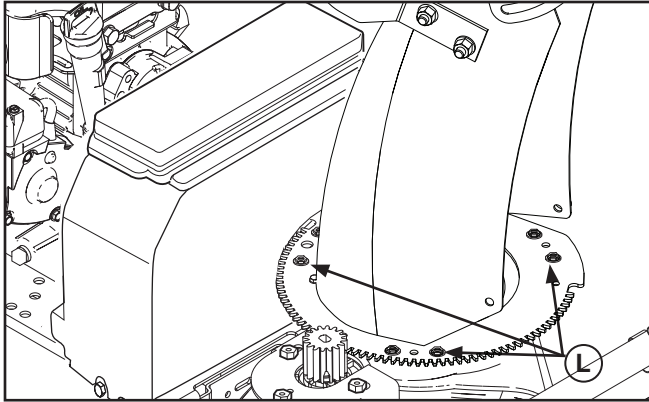

Figure 4
**NOTE:** If the chute rotation is slow or binding, loosen the chute rotation screws (**L**, Figure 4) 1/4 turn.